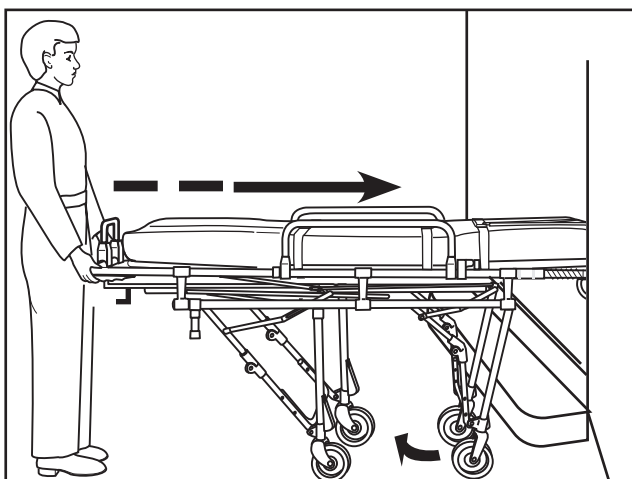

Figure 14 - Folding the Head-End Legs
4. **Foot-End Operator:** Squeeze the right control handle to unlock the head-end legs. Push the cot into the ambulance (Figure 14).